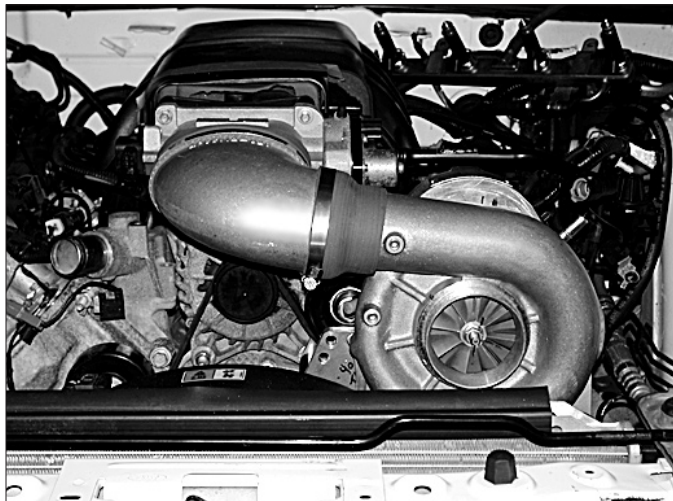

Fig. 9-a
- C. Install the duct to the inlet of the throttle body and the outlet of the supercharger. (See Fig. 9-a.)
- H. Connect the supplied length of 5/32" vacuum to the port on the bypass valve. Route the line to the fuel regulator vacuum hose. Using the supplied vacuum TEE, connect the bypass vacuum line. (See Figs. 9-b, 9-c on Page 9-2, for assistance.)